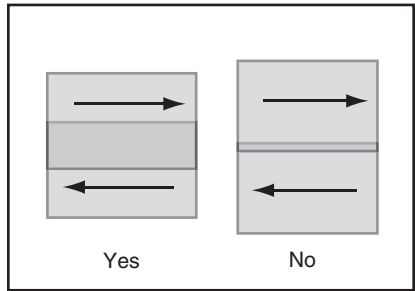

Figure 5. Overlap technique.
12. Overlap each stroke by 50%. This will ensure even coverage as shown in **Figure 5**. Overlapping less than 50%, as shown in the figure to the right, may lead to missed spots or streaky results.